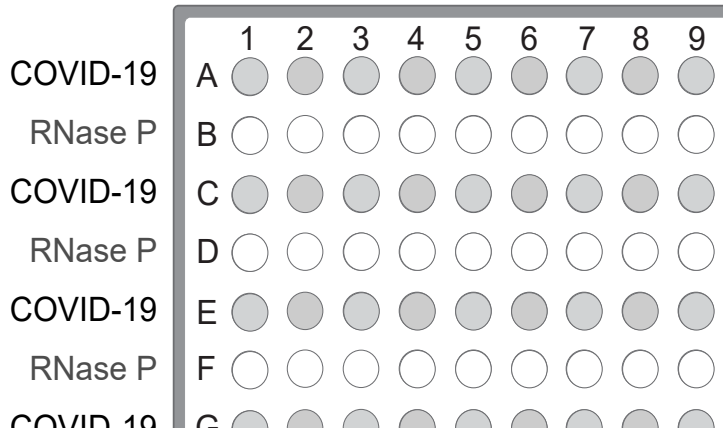

Figure 5 Assays in alternating plate rows
- a. Starting with row A, pipet 20.0 μ L per well of the COVID-19 Reaction Mix into every other row of a MicroAmp™ Fast Optical 96-Well Reaction Plate with Barcode, 0.1 mL or a MicroAmp™ Optical 96-Well Reaction Plate with Barcode, 0.2 mL. See Figure 5 on page 61.